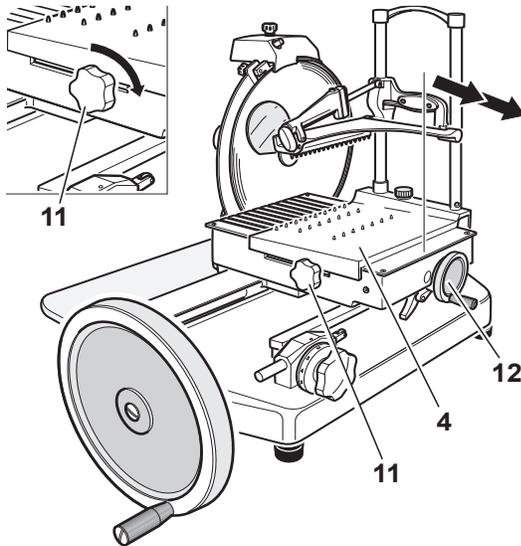

Figure 20-1
- Turn the handwheel (12) or the fast forward knob (11) clockwise to move the product holder (4) away from the knife (16) (Figure 20-1).